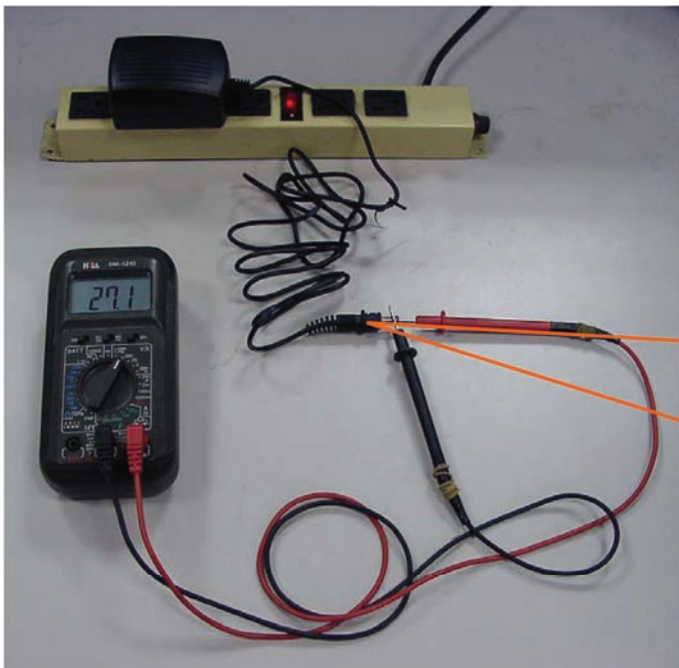

Figure 1
- Step 3: Connect digital voltmeter red and black cables as in Figure 1